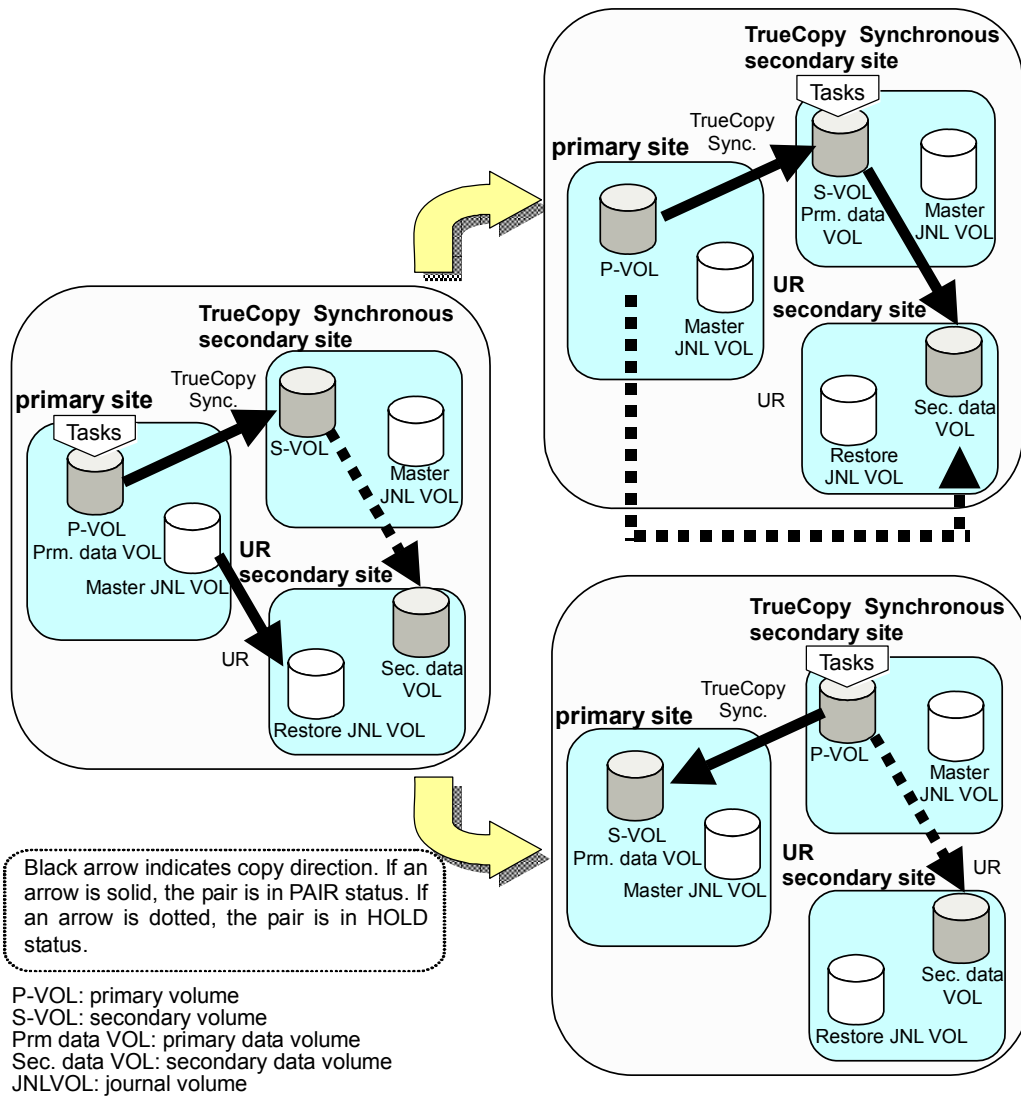

Figure 9-2 Recovery from Disaster in the Primary Site (When Delta Resync Operation is Performed)
4. In the either cases when the primary/secondary relationship of the TrueCopy Synchronous pair is not reversed (i.e., the copy direction is not reversed as illustrated in the upper-right picture in Figure 9-2), or when the primary/secondary relationship of the TrueCopy Synchronous pair is reversed (i.e., the copy direction is reversed as illustrated in the lower-right picture in Figure 9-2), use CCI to perform delta resync operation on the volume in the TrueCopy Synchronous secondary site. When you perform delta resync operation on the volume in the TrueCopy Synchronous secondary site, the status of the data volumes of UR pair changes as explained in the following table.